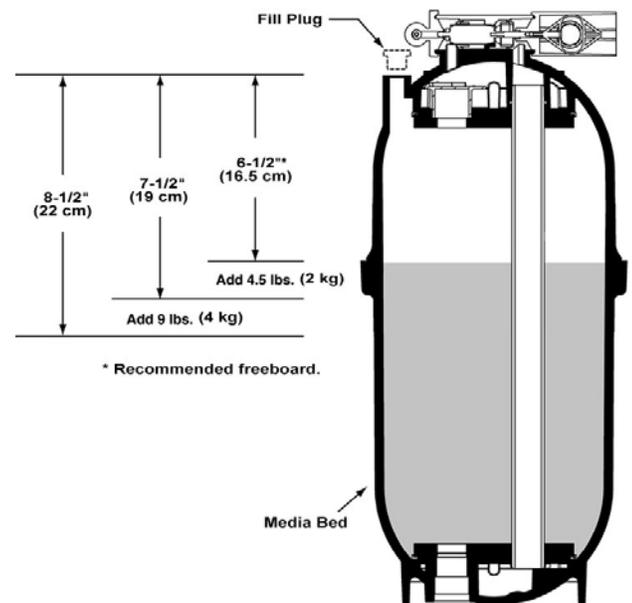

Figure 16: Maximum Freeboard Amount
- A. Measure the freeboard distance from the top of the tank to the media. See Figure 16.